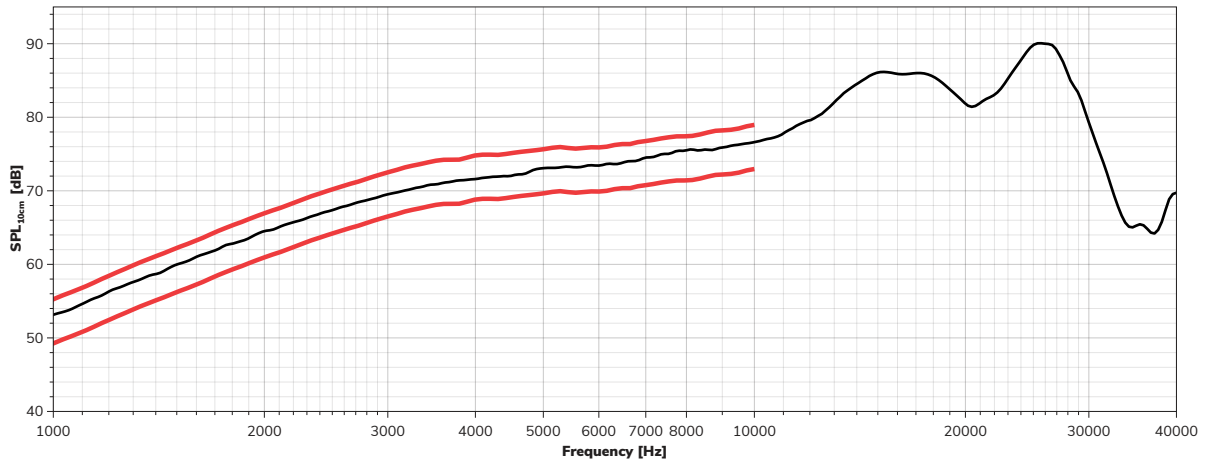

Figure 7: SPL @ 15 V_p drive*
*Red lines in figure 7 indicate the limits. Test limits are used to establish incoming inspection acceptance/rejection criteria, correlation of test equipment with USound is also a requirement for elimination of equipment and test method variation.